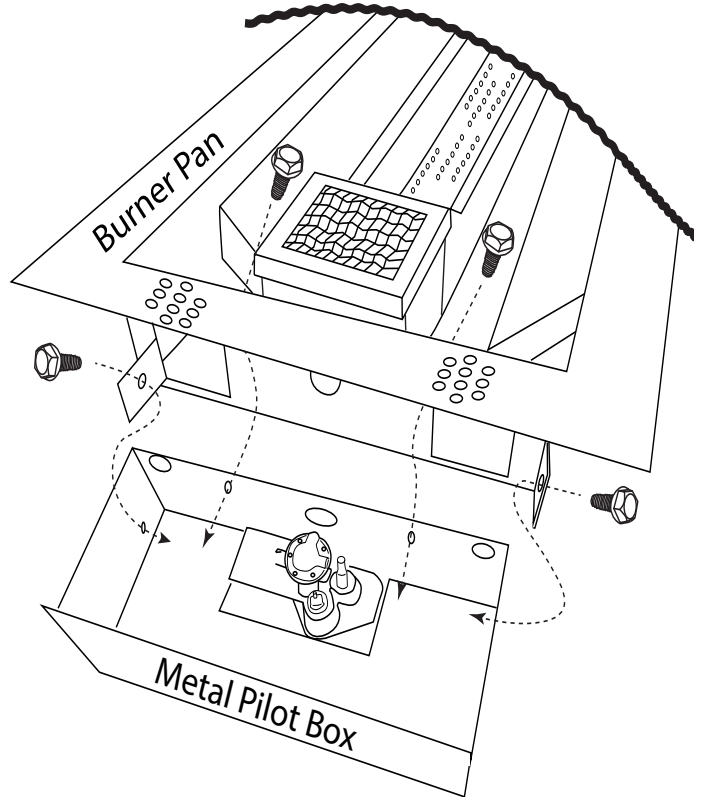

Fig. 6 Pilot box screw locations
Step 7: On the end of the burner pan where the pilot is located (See Fig. 6), remove the four (4) 1/14" hex head screws securing the metal pilot box. Two screws are located inside the burner pan, one on each side of the ignitor box screen mesh hood and the other two are securing a metal tab on each side of the pilot box. See Fig. 6 for screw locations.
Once the orifice has been converted to LP then re-install the pilot hood, ensure the clip is in place (if removed) and mount the metal pilot box back into place in the same manner you removed it from the burner pan. See Fig. 6.